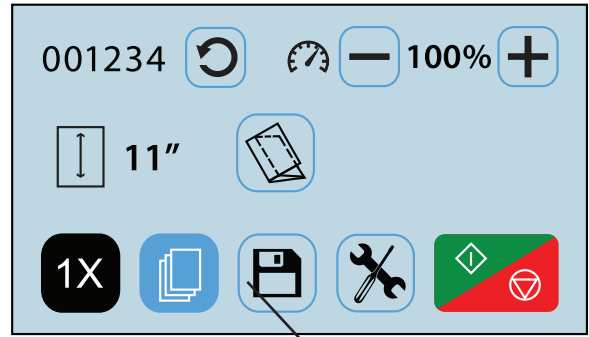

Fig. 22
1. To recall, edit, or delete a saved custom fold from the home screen press the saved job icon  (Fig. 22).